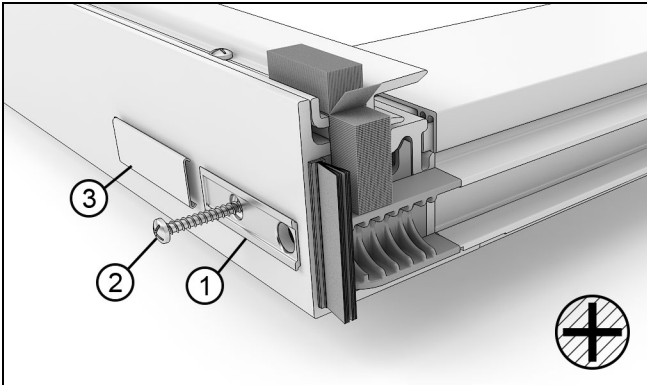

Figure 81 Non-Primary panels
2. On pocket and secondary panels, fasten the bottom stile cover retainer to the bottom of the stile with a #8x 1 3/4" (44) Phillips head screw. Slide the cover over the bracket. See Figure 81.